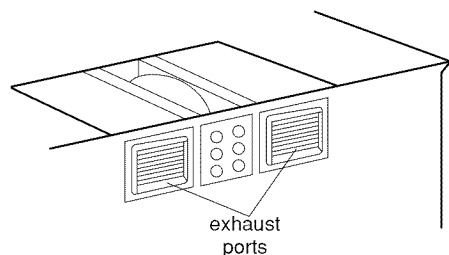

Figure 13
5. Place blower unit back into cabinet. Check that exhaust ports face the rear of the cabinet. See Figure 13.